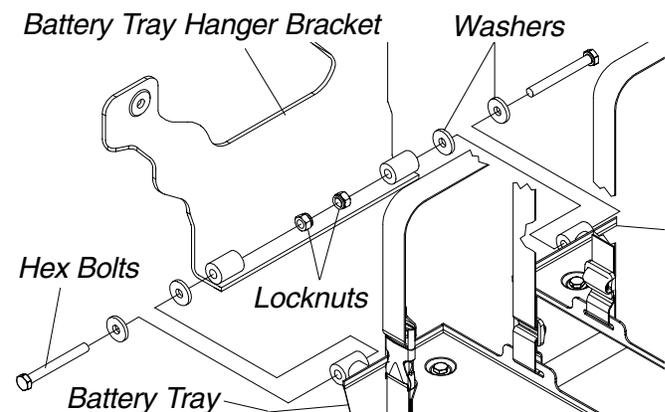

FIGURE 12 - REMOVING/INSTALLING BATTERY TRAY FOR R2BASIC AND R2STANDARD
**REMOVING (FIGURE 12).**
2. Remove the two (2) hex bolts, four (4) washers and two (2) locknuts that secure the existing battery tray and washers to the battery tray hanger bracket.
**INSTALLING (FIGURE 12).**
2. Position one (1) of the washers between the battery hanger bracket and the new/existing battery tray.
3. Reinstall one (1) of the hex bolts and washers through the new/existing battery tray, washer and battery tray hanger bracket and loosely tighten with a locknut.
5. Tighten the two (2) hex bolts and locknuts.
*NOTE: Tighten the Two (2) hex bolts and locknuts until the tray stays up by itself. Over tightening the hex bolts and locknuts will make the battery tray difficult to flip up.*
2. Secure battery tray to battery bracket with the existing two (2) mounting screws, four (4) washers, and two (2) locknuts. Torque mounting screws to 72-inch pounds. See Figure 12 for hardware orientation.